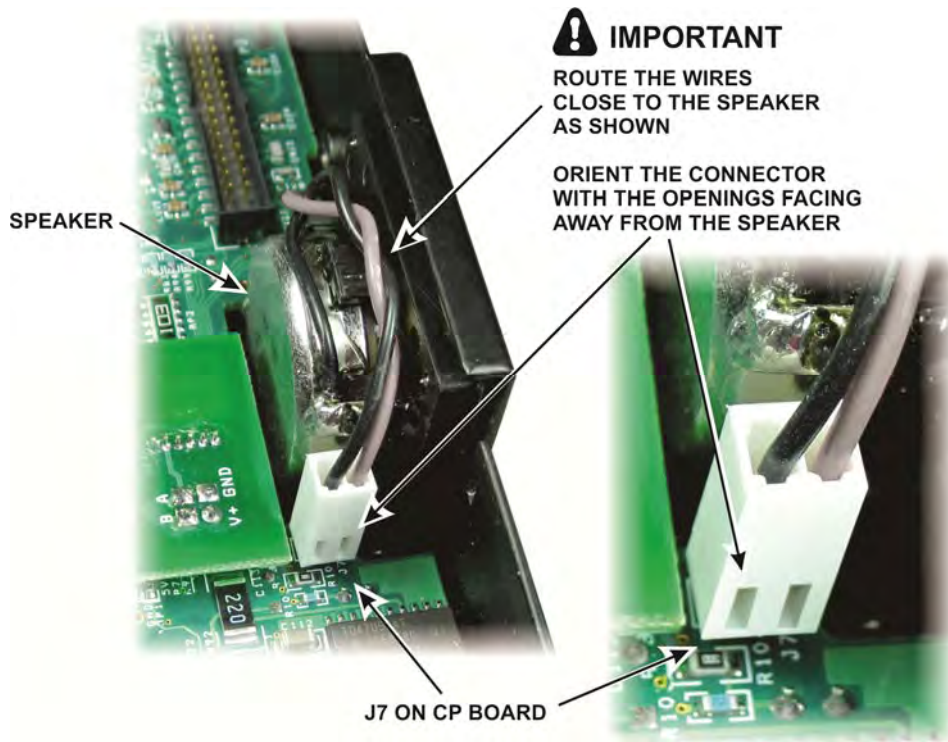

Figure 17. Connecting the Speaker to the CP Board.
- Plug the speaker connector into J7 next to the VFO encoder board (see Figure 17).
⚠ Be certain you oriented the speaker plug as shown in Figure 17. Reversing it may result in intermittent or distorted audio from the speaker.